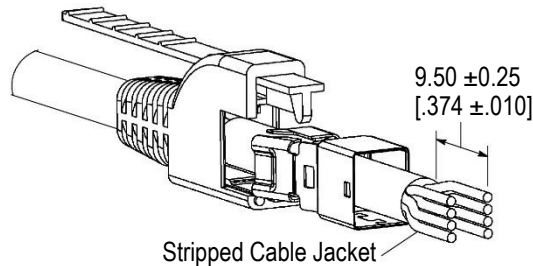

Figure 2
Prior to stripping the cable, make sure to slide the strain relief and shell onto the cable and away from the stripping area. See Figure 2.
1. Strip the cable jacket to  $9.50 \pm 0.25$  mm [ $0.374 \pm 0.010$  in.] as shown in Figure 2.